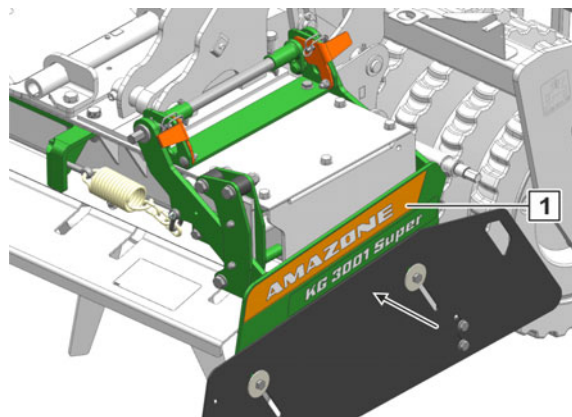

Fig. 152
- The side plate (Fig. 152/1) is fixed in the inner position.